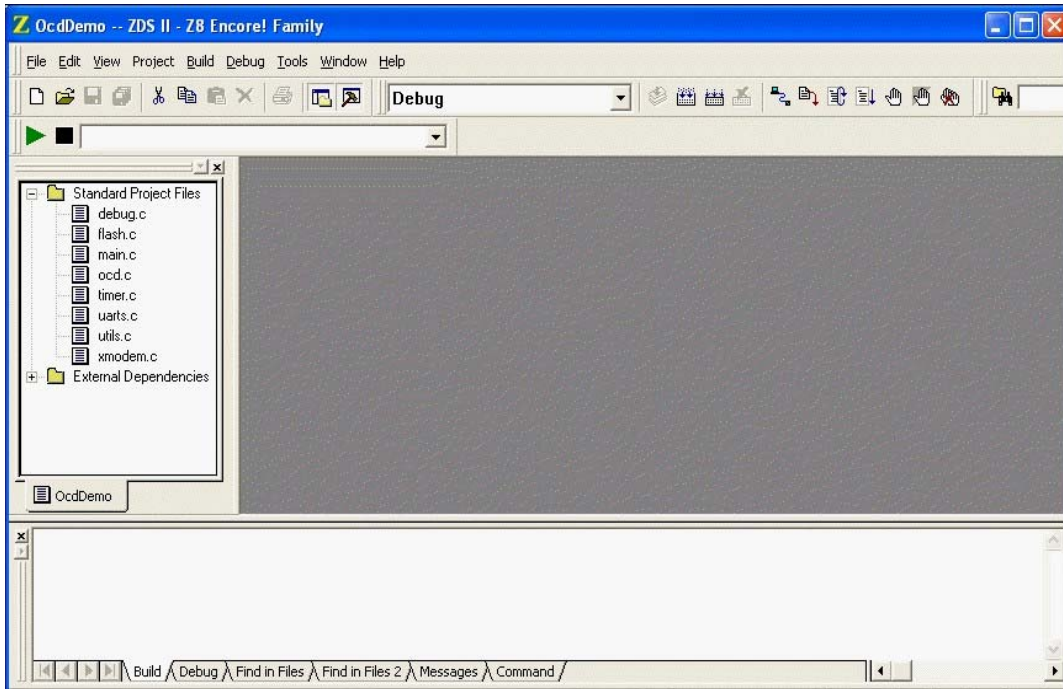
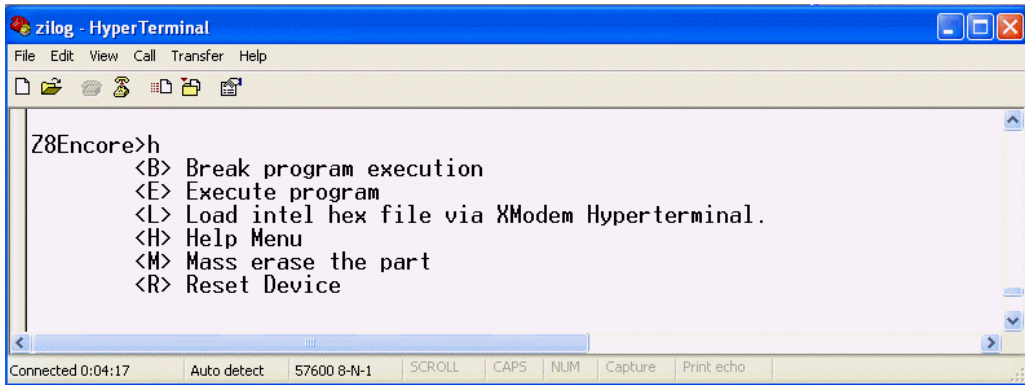

Figure 3. OcdDemo Opening Screen
Figure 5. HyperTerminal Window
15. Select the `OcdDemo.zdsproj` file and click **Open**. The initial ZDS II program screen is displayed, see Figure 3 on page 8. To view the project source files, click the plus sign to the left of the **Standard Project Files** folder on left side of the IDE interface. Double-click an individual file to open that file in the ZDS II file editor.
► **Note:** *Figure 3 through Figure 5 are for reference only. You might have a newer version of the software.*
4. Type **h** at the **Z8Encore>** prompt in the HyperTerminal window to see the available commands, as displayed in Figure 5.